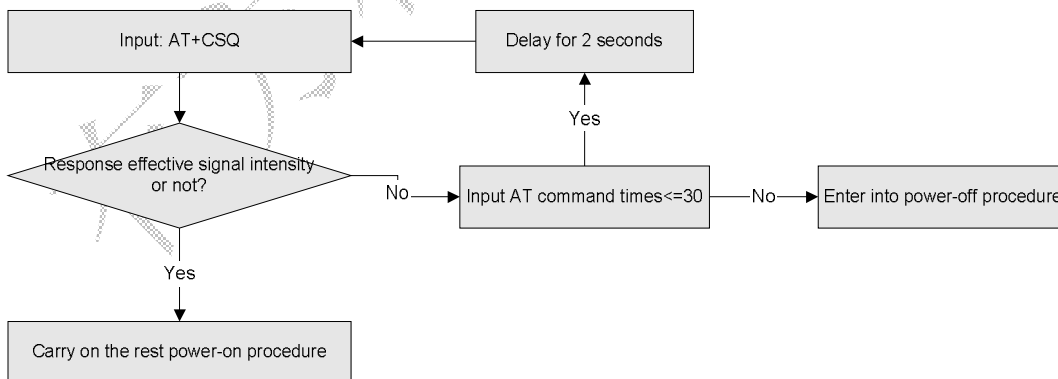

FIGURE 4 Flowchart of Testing Signal Intensity
Step5 input 'AT+CSQ', estimate whether the signal strength of the network can meet the requirement or not (the signal strength <=31, effective value), 30 times every two seconds. The flowchart of this step is as shown in Figure 4: